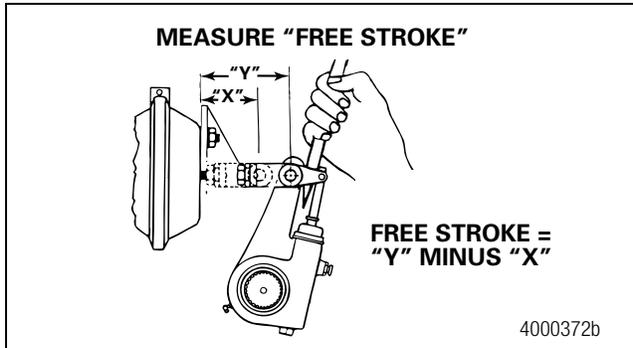

Figure 7.10
3. Measure the distance from the center of the large clevis pin to the bottom of the air chamber while the brake is released. The measurement you obtain is X in Figure 7.10.
4. Use a pry bar to move the slack adjuster and position the linings against the drum with the brakes applied. Measure the same distance again while the brakes are applied. The measurement you obtain is Y in Figure 7.10.
5. Subtract X from Y to obtain the in-service free stroke. The measurement must be 0.5-0.625-inch (12.7-15.9 mm). Figure 7.10.